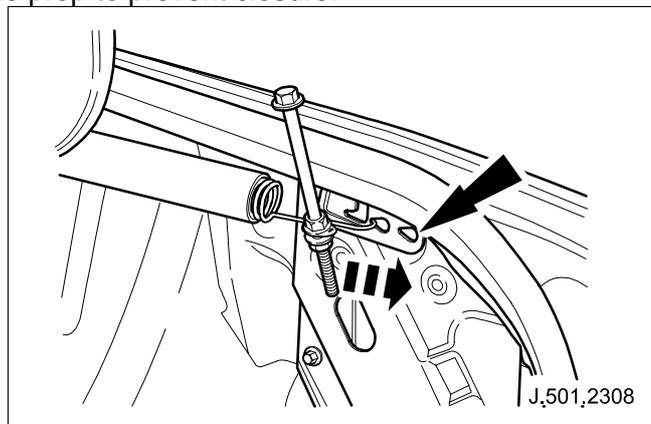

Fig. 2
- 5 Reposition rear hooks of luggage compartment lid return springs to their rearmost body location holes. (See Fig. 2)